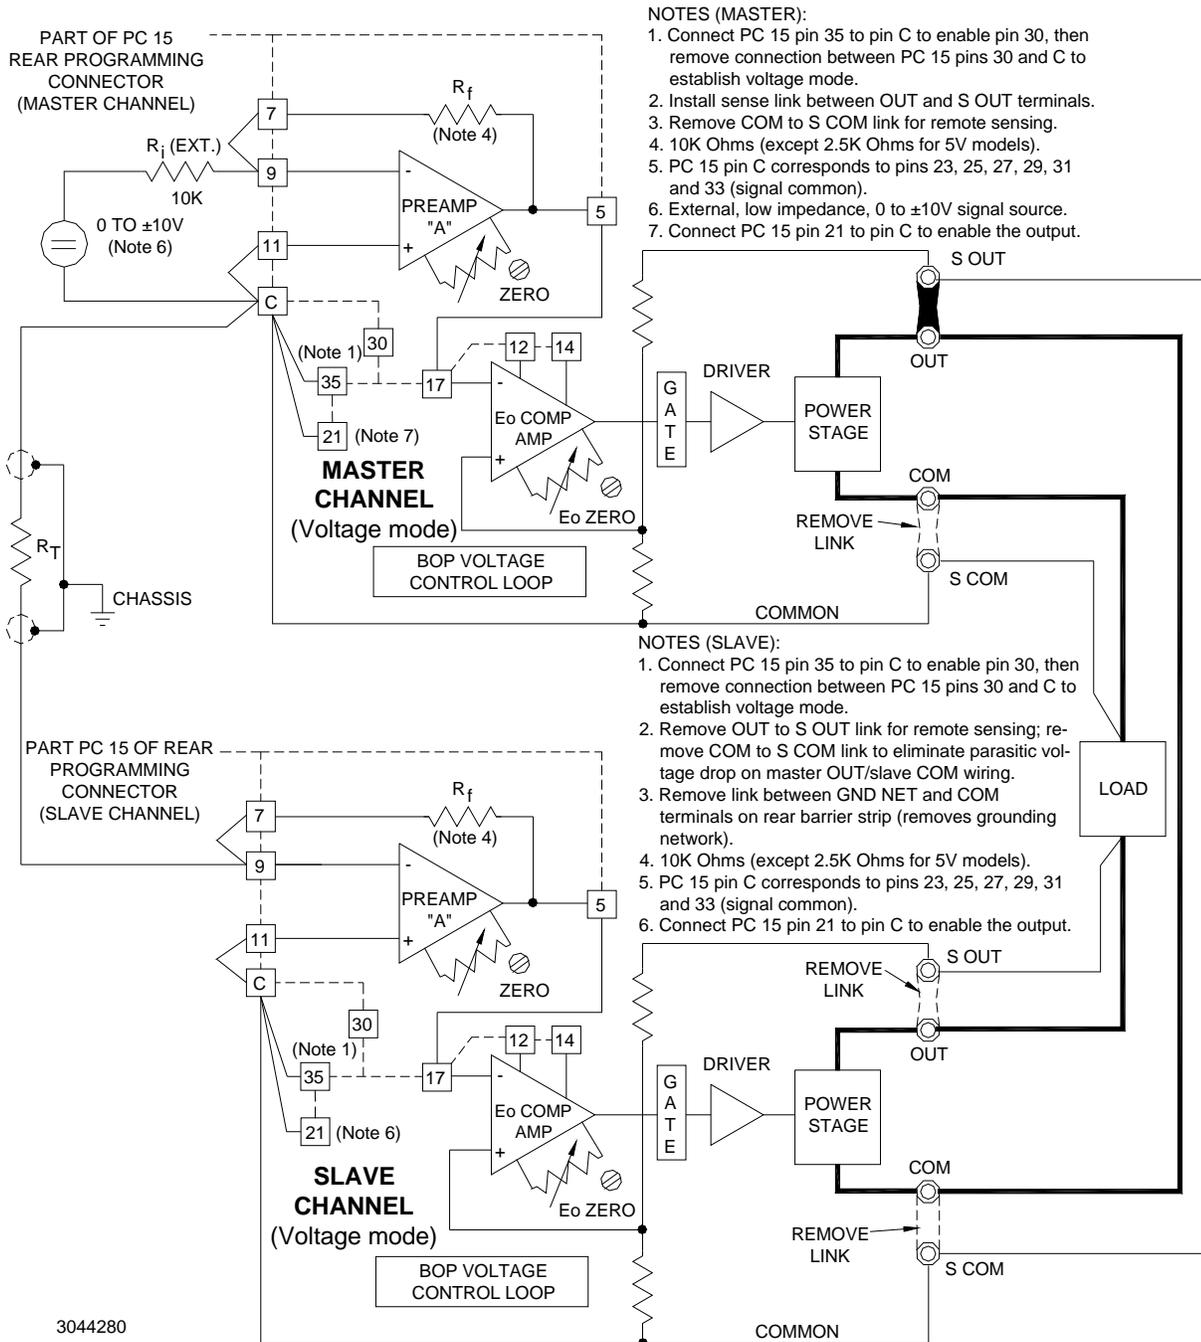

FIGURE 3-23. SERIES CONNECTION, MASTER/SLAVE, VOLTAGE CONTROL OF TWO BOP 2X-D CHANNELS WITH REMOTE ERROR SENSING AT THE COMMON LOAD
Two BOP channels can be connected in series to increase the unit's output voltage. The Slave channel is set to always be in voltage mode, adding to the output voltage of the Master channel by repeating the Master's voltage, while the Master can operate in either voltage mode or current mode as needed. Figure 3-23 shows a Master/Slave connection of the two BOP channels of a BOP 2X-D Dual Channel unit.
1. Connect the BOP channels as shown in Figure 3-23.
2. Turn BOP channels on and begin operation. The system as shown in Figure 3-23 operates in Voltage Mode, since the Master Channel is set to voltage mode (no connection between PC 15 pins 30 and C (common)). For operation in Current Mode, set the Master to Current mode by installing a connection between PC 15 pins 30 and C (common).